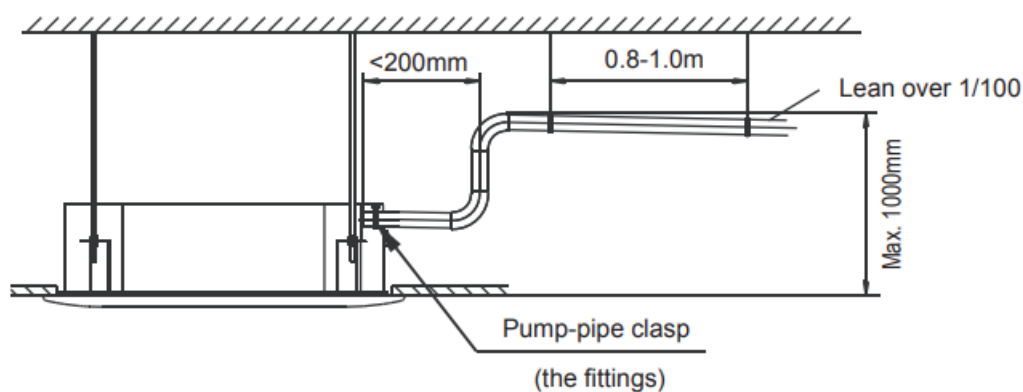

Fig.6-2
7. In case the drainpipe outlet is higher than pumping connective pipe of the main body, the drainpipe must be arranged upwards vertically by using connective assembly of the water outlet for vertical bending, and the height of the drainpipe shall set to the defrosting pan surface no more than 1000mm, otherwise, too much backflow while shutdown would leads to overflow (Refer to Fig.6-2).